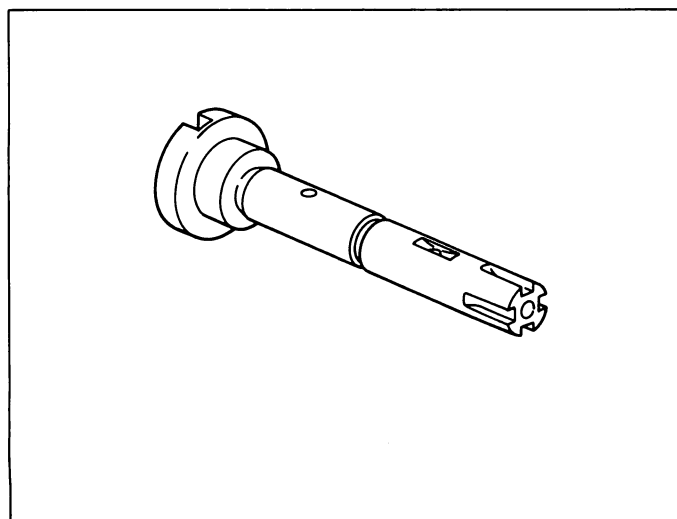

Fig. 57 The injection pump plunger
**Caution:** The plunger slides inside the distributor barrel pressed into the distributor head (50), and the control sleeve. As it is lapped to an extremely small tolerance, it must be handled with great care. (Fig. 57)